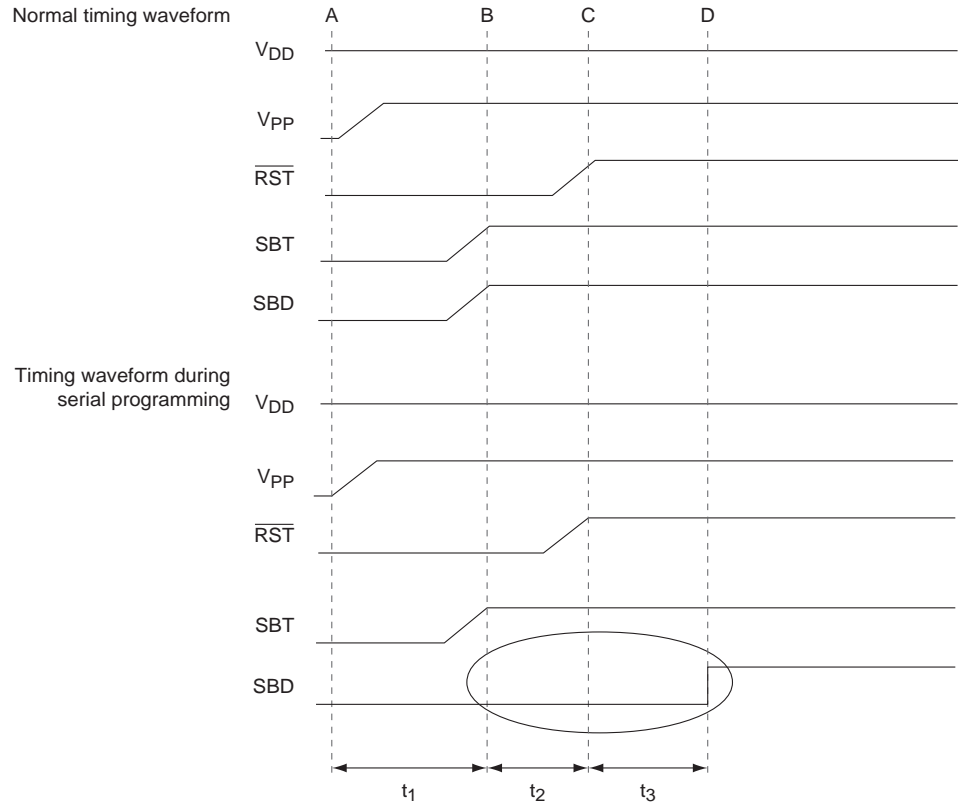

Figure B-8 Timing for the Serial Writer Interface
2. At time A in figure B-8, turn V_{PP} on. At this point, output $\overline{\text{RST}} = \text{SBD} = \text{low}$.
3. Through the serial writer, drive the $\overline{\text{RST}}$ pin from time B in figure B-8, when SBT goes high on microcontroller power-up, for t₂ cycles. The microcontroller initializes.
4. Through the serial writer, drive the SBD pin low from time C in figure B-8, when RST goes high on microcontroller power-up, for t₃ cycles. This tells the microcontroller that it is connected to the serial writer.